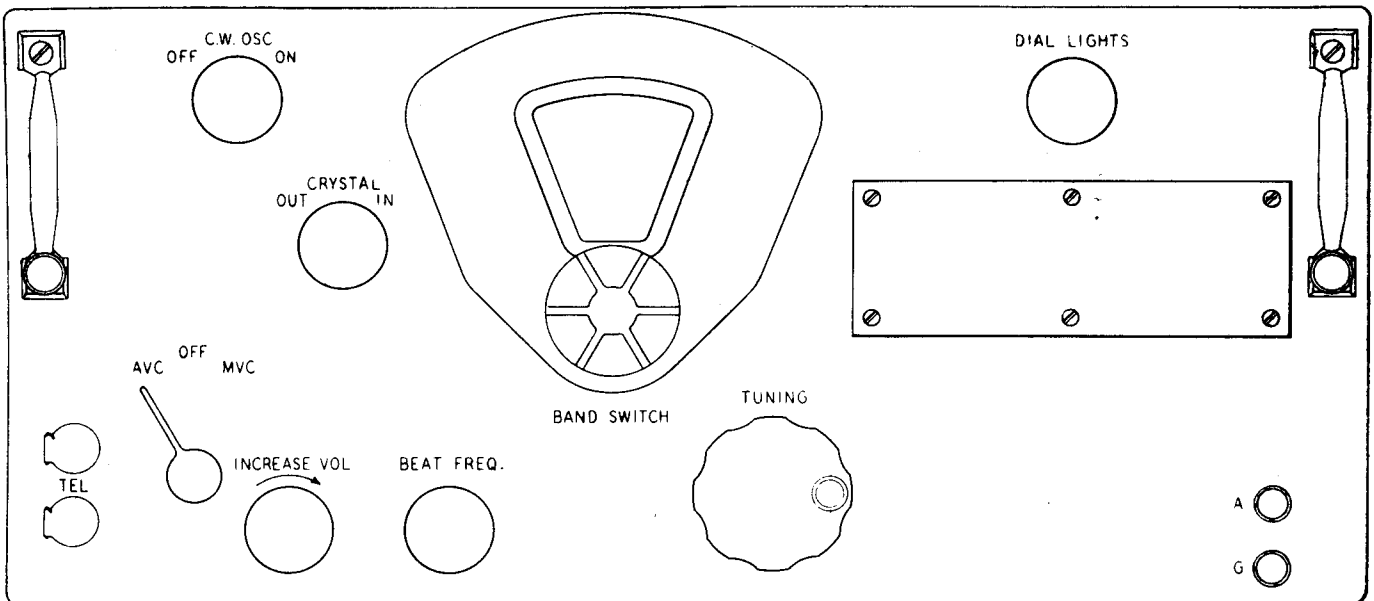

Figure 3 — Radio Receiver BC-348-J, View of Front Panel
- (1) Check the connections at the aircraft power supply.
- (2) Check the connections at the transmitter relay.
- (3) Check the connections at the interphone system, if used.
- (4) Check the power connections to auxiliary equipment, if used.
- (5) Check the antenna and ground connections.
(6) Make sure the thumbscrew rods holding the chassis in the cabinet are tight.
(7) Make sure the snapsides are locked and secured with safety wire.
b. **CONTROLS.**—The operator should become thoroughly familiar with the controls on the front panel (see Figure 3) and their function before beginning the operating test.